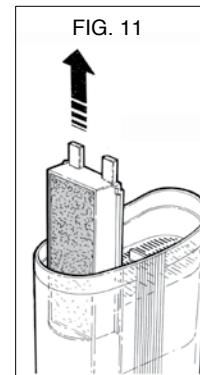

FIG. 11
**MECHANICAL PRE-FILTER SCREEN** (fig. 11): Periodically rinse the sponge in running warm water to remove particles and replace it every 6 months or when it is damaged.